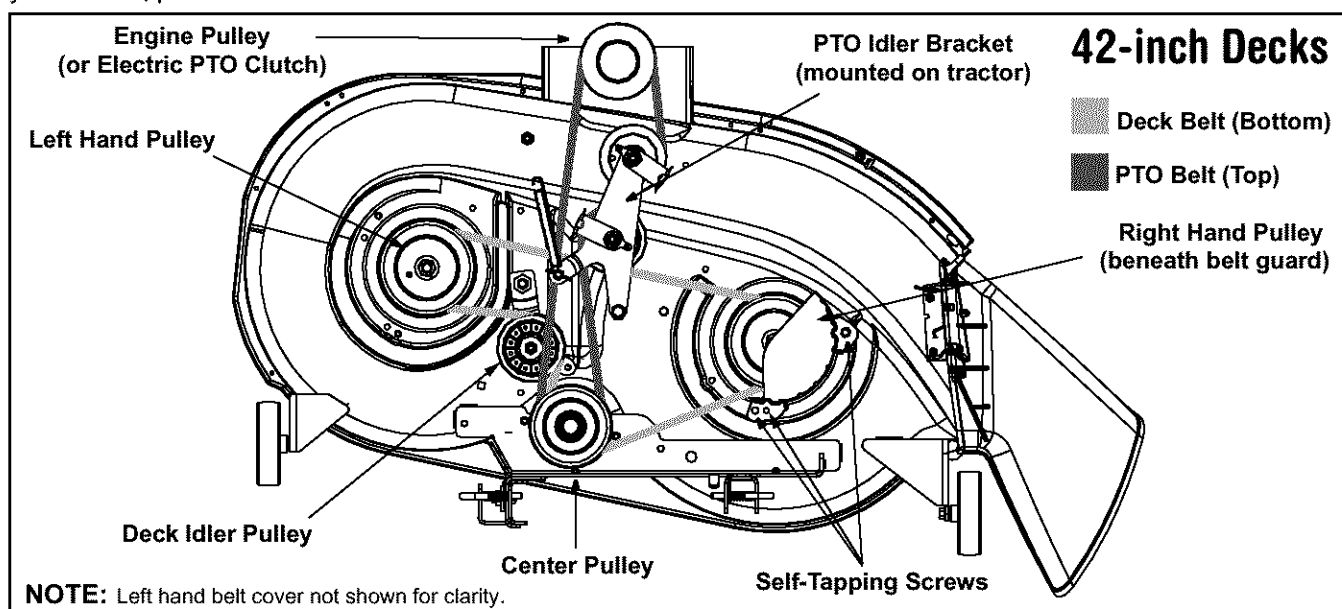
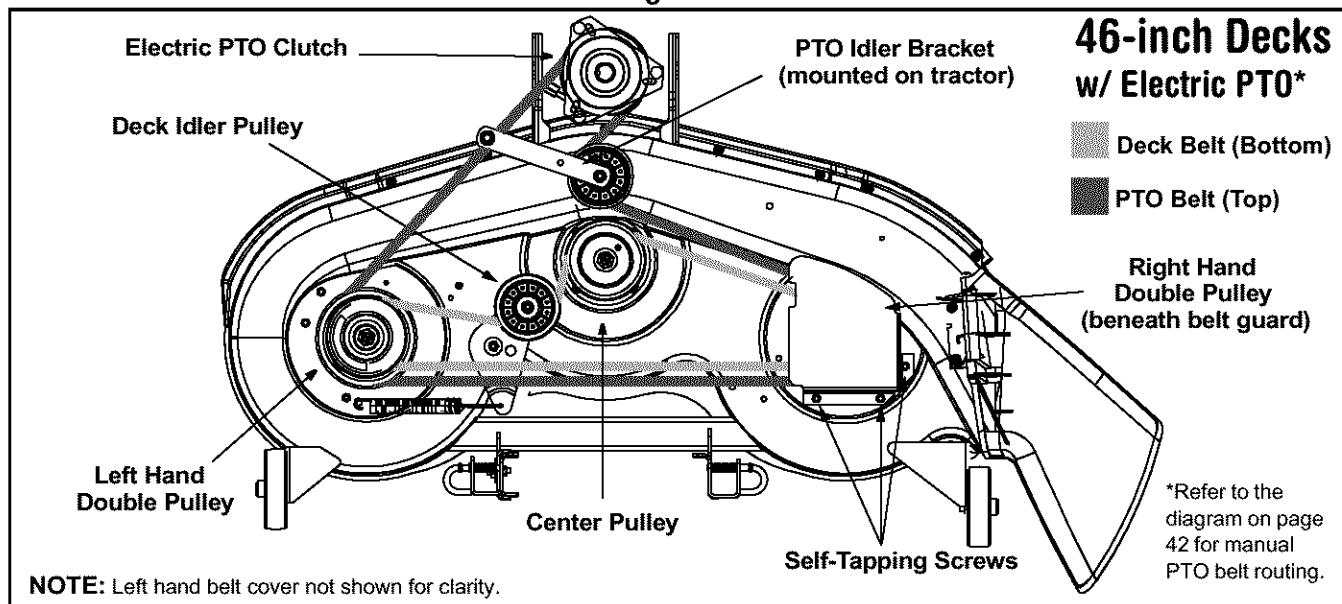

Figure 17
Figure 18
- On models equipped with a 42-inch deck, remove the PTO belt from around the cutting deck's center pulley. Refer to Figure 17.
- On models equipped with a 46-inch deck, remove the PTO belt from around the tractor's engine pulley (or electric PTO clutch, if so equipped) and idler pulley(s). Refer to Figure 18.
- Route the new belts (deck belt first) as shown in Figure 17 and Figure 18.